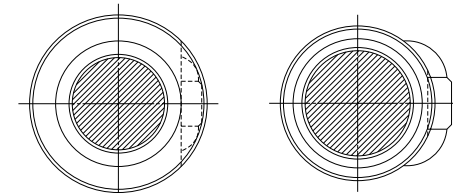

Fig. I-4.2 Shape of the cross section of nut
(2) Shapes of nut cross section (Fig. I-4-2)